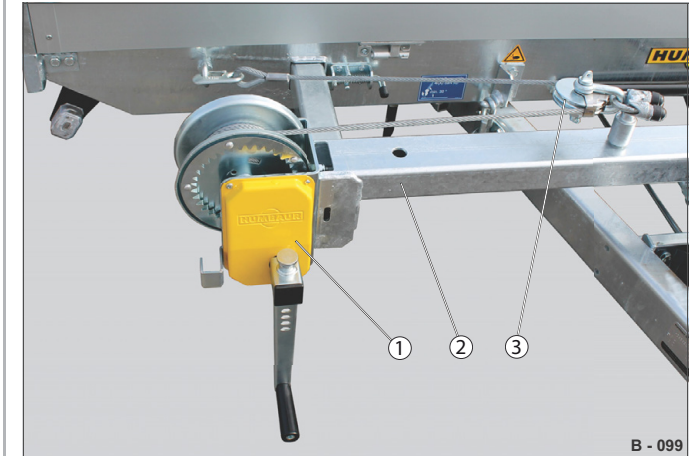

Fig. 40 Version 3: Cable winch with pulley system
- ▶ Position the pulley (Fig. 40 /3).